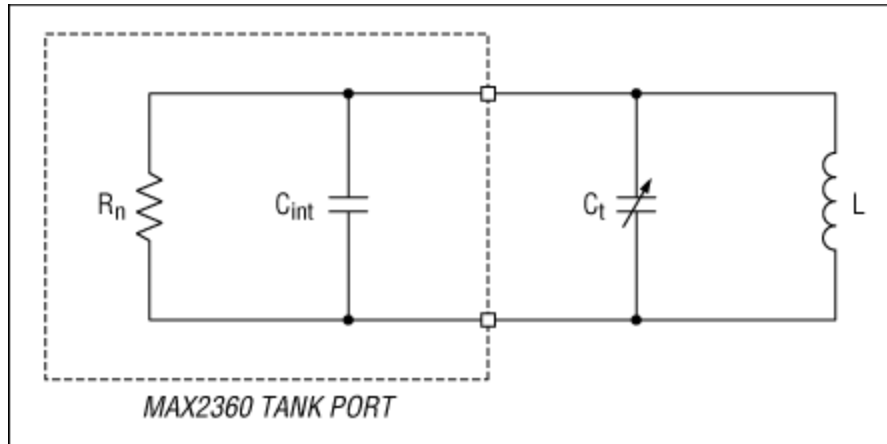
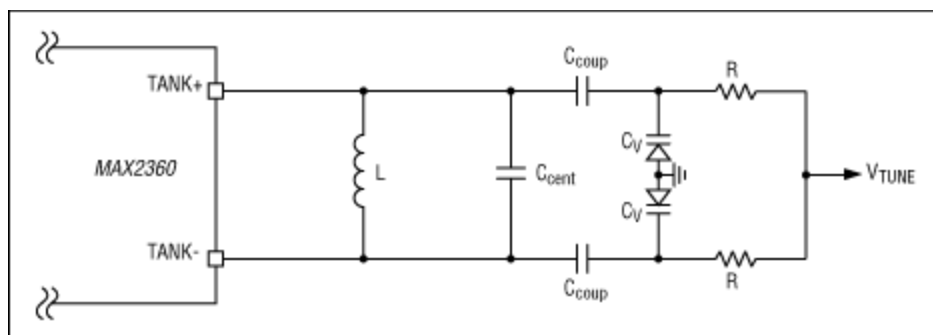

Figure 1. Basic VCO model.
Figure 2. The MAX2360 tank circuit.
**Figure 2** shows the differential tank circuit used for the MAX2360 IF VCO. For analysis purposes, the tank circuit must be reduced to an equivalent simplified model. **Figure 1** depicts the basic VCO model. The frequency of oscillation can be characterized by EQN1:
Inductor  $L$  resonates with the total equivalent capacitance of the tank and the internal capacitance of the oscillator ( $C_t + C_{int}$ ) (see Figure 1).  $C_{coup}$  provides DC block and couples the variable capacitance of the varactor diodes to the tank circuit.  $C_{cent}$  is used to center the tank's oscillation frequency to a nominal value. It is not required but adds a degree of freedom by allowing you to fine-tune resonance between inductor values. Resistors ( $R$ ) provide reverse-bias voltage to the varactor diodes via the tune voltage line ( $V_{tune}$ ). Their value should be chosen large enough so as not to affect loaded tank  $Q$  but small enough so that  $4kTBR$  noise is negligible. The resistors' noise voltage gets modulated by  $K_{VCO}$ , producing phase noise. Capacitance  $C_v$  is the variable tuning component in the tank. The capacitance of the varactor diode ( $C_v$ ) is a function of reverse-bias voltage (see Appendix A for the varactor model).  $V_{tune}$  is the tuning voltage from a phase-locked loop (PLL).
Tuning gain ( $K_{VCO}$ ) must be minimized for best closed-loop phase noise. Resistors in the loop filter as well as the resistors "R" (Figure 2) will produce broadband noise. Broadband thermal noise ( $V_n = \sqrt{4kTB R}$ ) will modulate the VCO by  $K_{VCO}$ , which is measured in MHz/V. There are two ways to minimize  $K_{VCO}$ . One is to minimize the frequency range over which the VCO must tune. The second way is to maximize the tuning voltage available. To minimize the frequency range over which the VCO must tune, tight tolerance components must be used, as will be shown. To maximize tuning voltage, a charge pump with a large compliance range is needed. This is usually accomplished by using a larger  $V_{CC}$ . The compliance range for the MAX2360 is 0.5V to  $V_{CC}-0.5V$ . In battery-powered applications, the compliance range is usually fixed by the battery voltage or regulator.